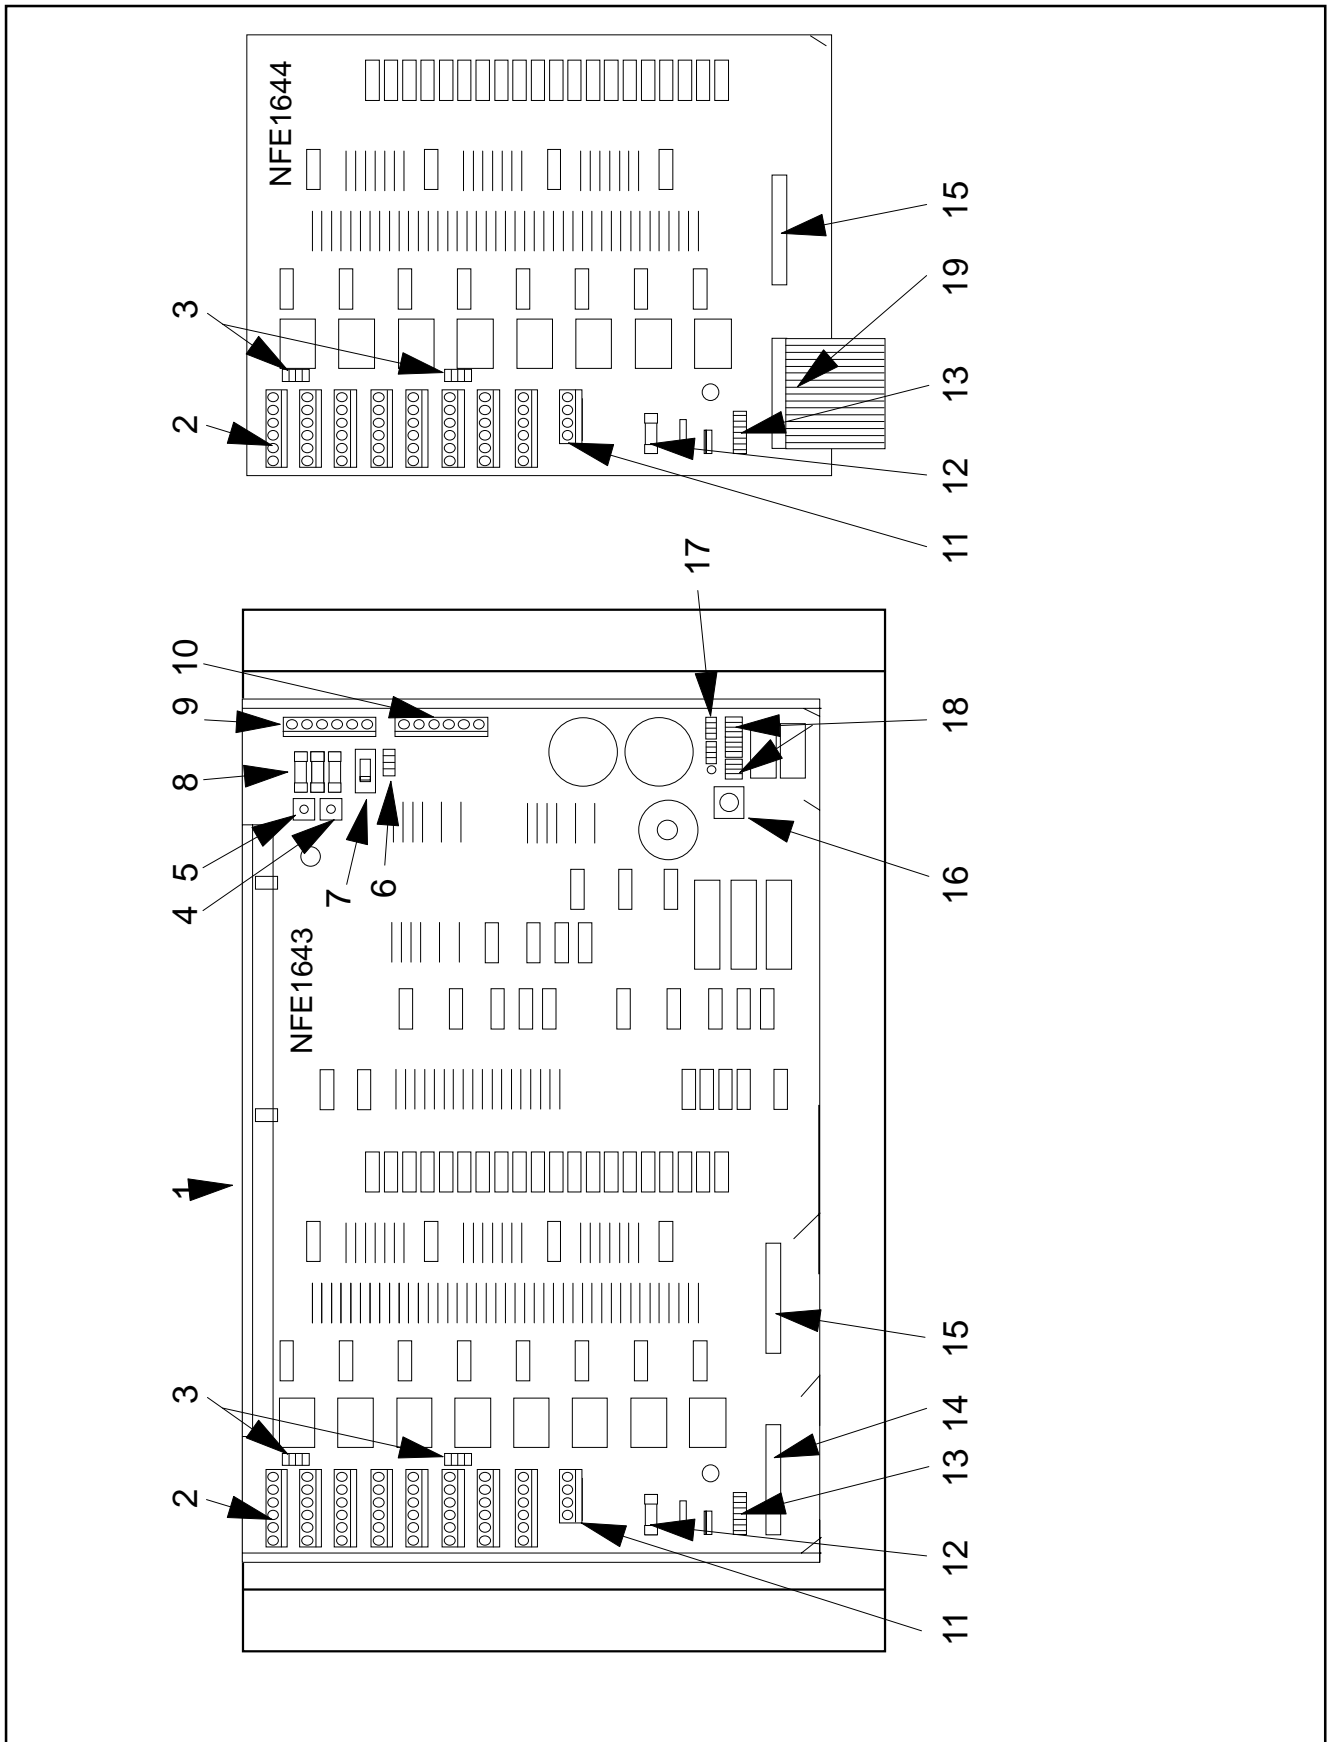

Fig. 2.2. System RM5000, Central Layout.
1.2. CENTRAL LAYOUT (see Fig. 2.2).